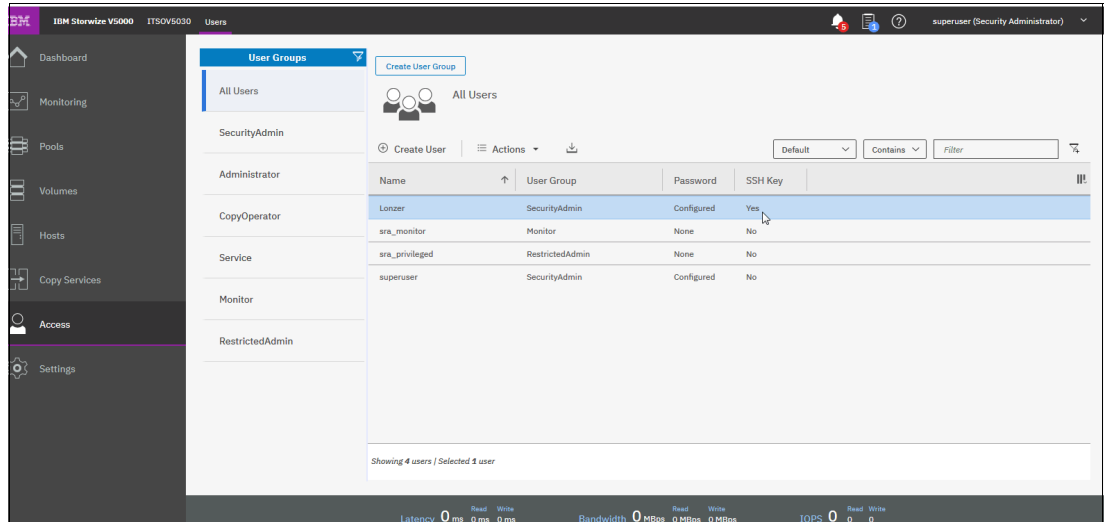

Figure A-12 SSH key was successfully imported
6. Check the GUI to see whether the SSH key was successfully imported (see Figure A-12).